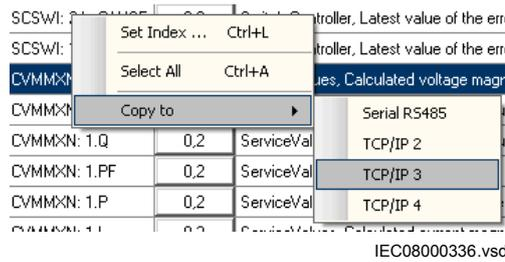

Figure 77: CMT: Context menu in DNP3 window
- Click the two inner arrows to sort signals to another index sequence, or select *Set Index ...* from the context menu to move one or a set of signals to another array, see Figure 77.